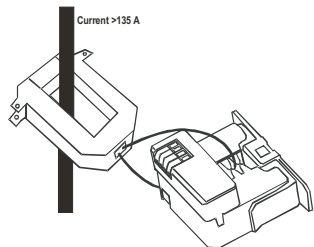

Figure 4: CTC with CT Transformer
Use a 5 A Current Transformer (CT) to reduce the current passing through the CTC as shown in Figure 4. Run the current transformer secondary wire through the sensing hole. Terminate the 2 secondary wires of the 5 A current transformer to each other, and then install the 5 A current transformer on the monitored conductor. Set the CTC for lowest ampere range (20 or 30 A)